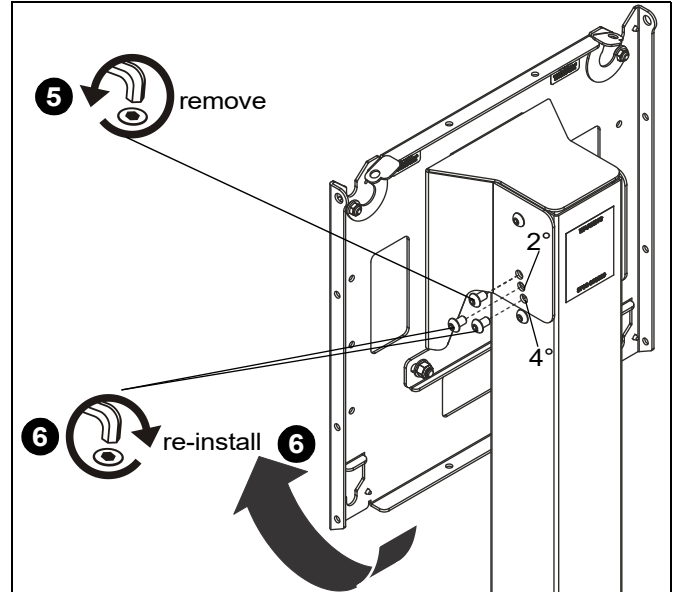

Figure 22
5. Use 3/16" hex key (H) to remove tilt adjustment screw. (See Figure 22)
6. Adjust faceplate tilt and re-install removed screw in either the middle hole for 2° tilt or the lowest hole for 4° tilt. (See Figure 22)